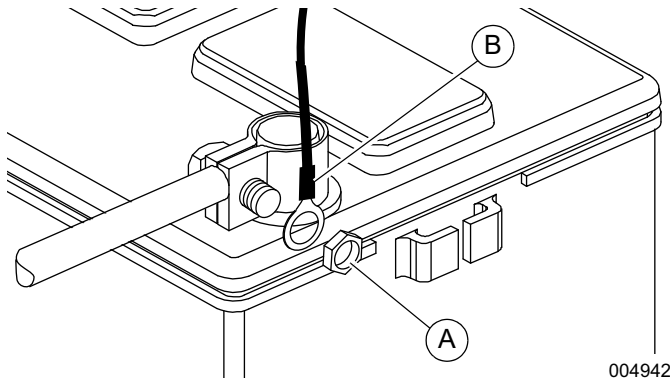

Figure 2. Attach Harness Power Wires
- See Figure 2. Loosen and remove nuts (A) from positive (+) battery terminal and negative (-) battery terminal screws on the battery cables. Slide harness power wires (B) over battery terminal screws and replace nuts. Tighten securely.